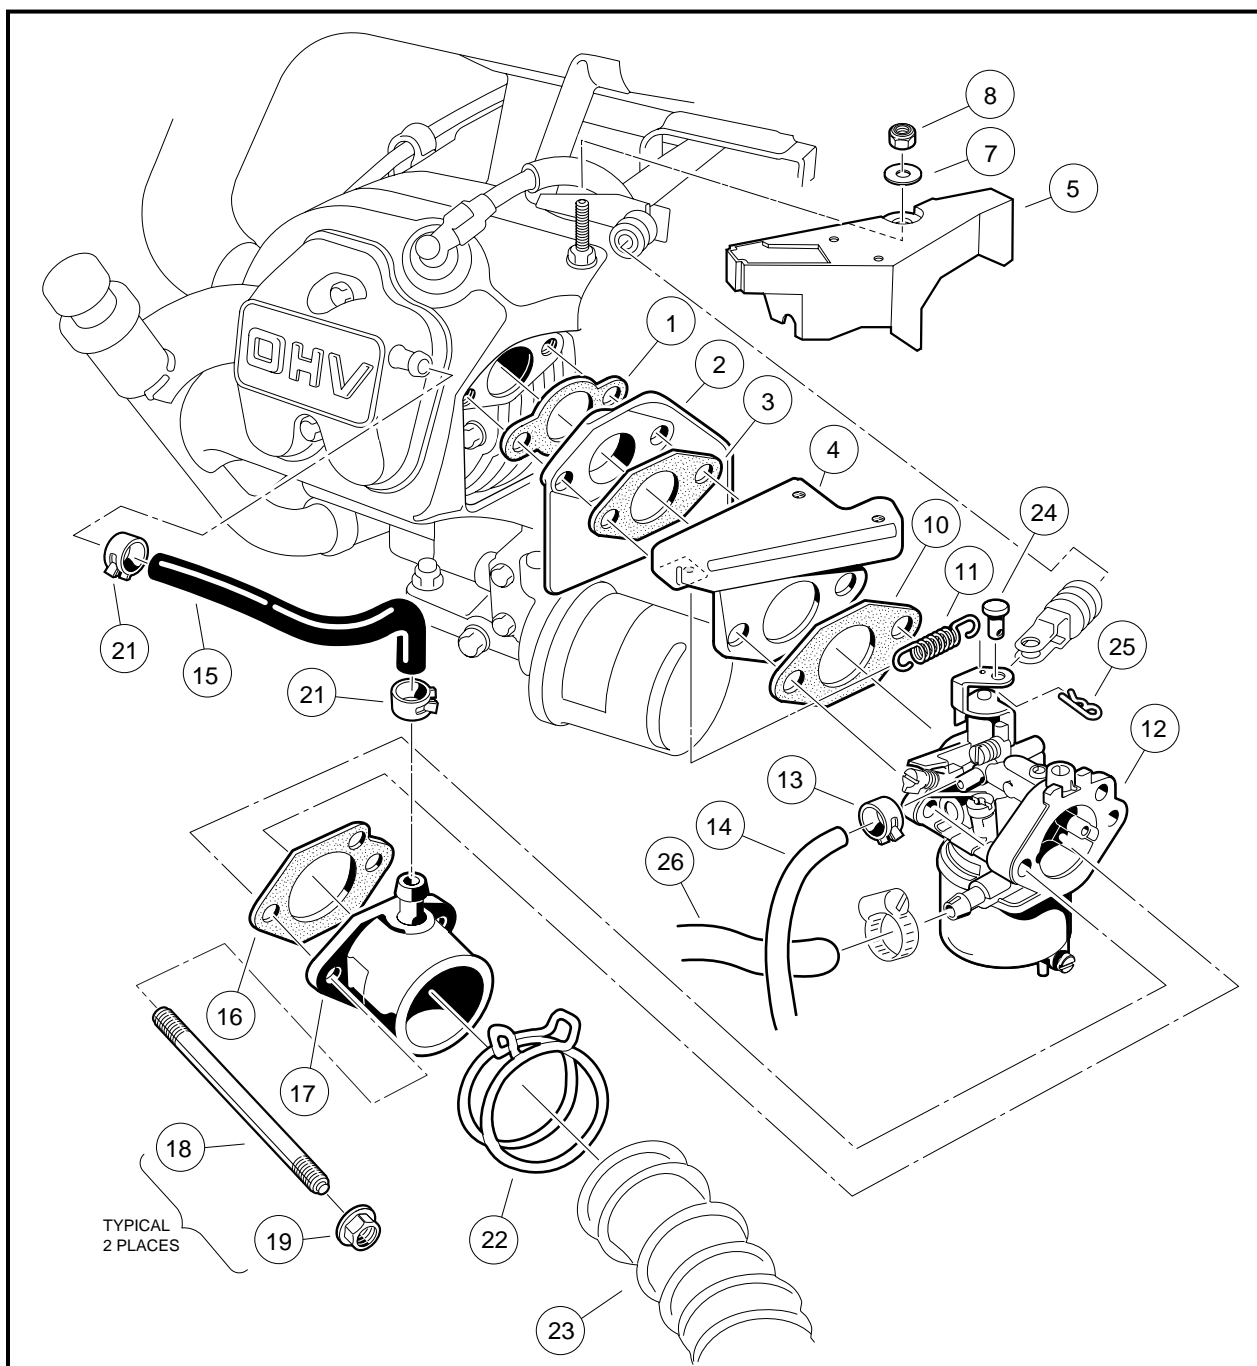
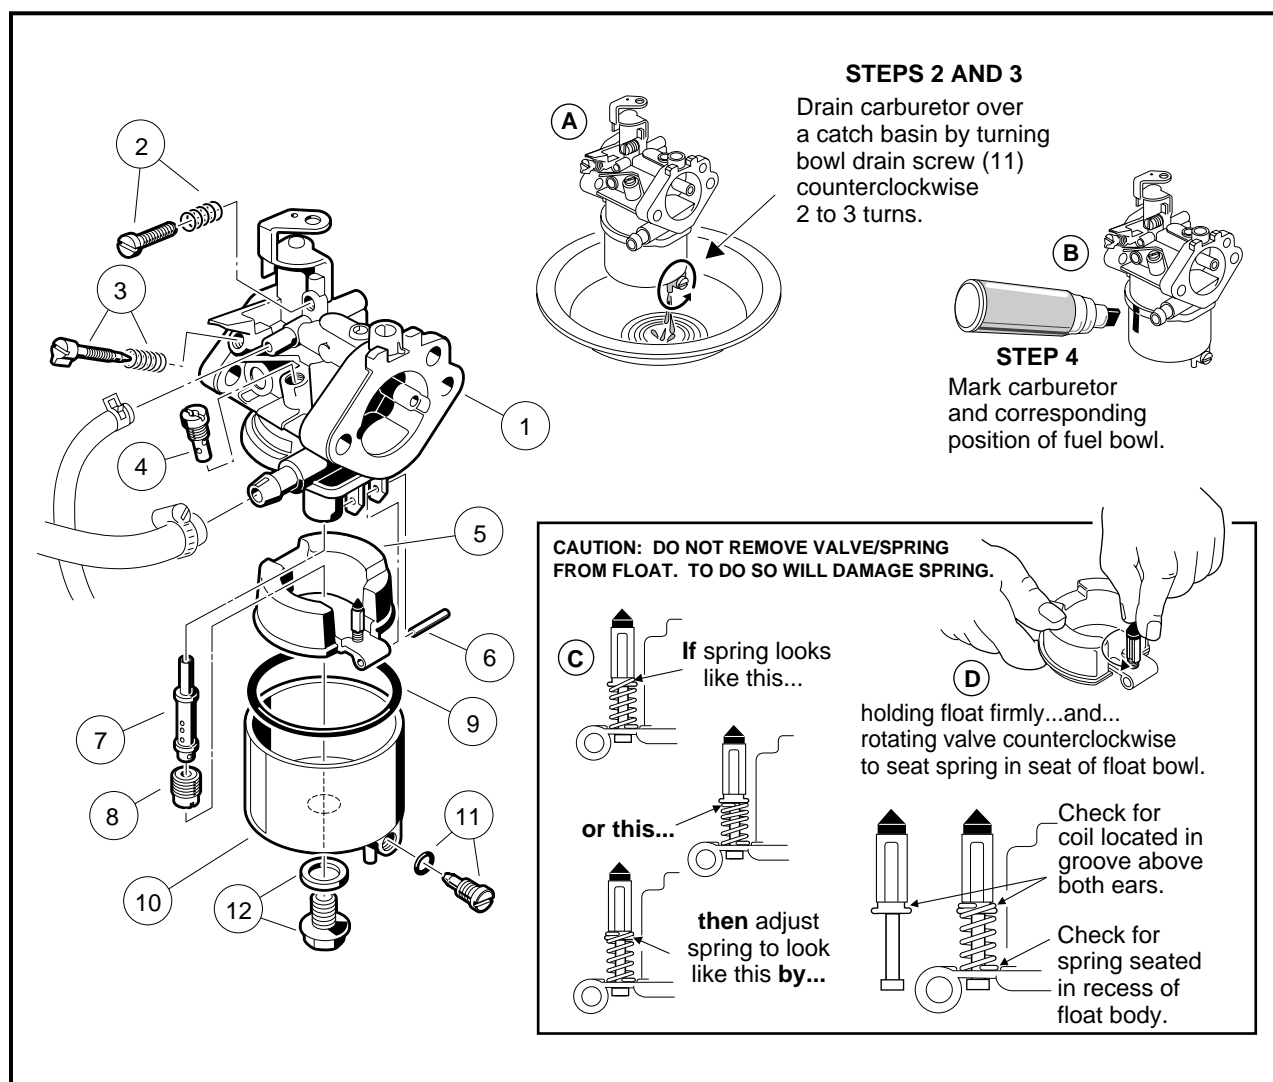

Figure 14-6 Carburetor Installation
Figure 14-7 Changing the Main Jet
- 1.3. Loosen the air intake hose clamp (22) and disconnect the air intake hose (23) at the carburetor end only (**Figure 14-6, Page 14-6**).
- NOTE THE ORIENTATION OF THE GASKET (16) BETWEEN THE CARBURETOR INTAKE (17) PIPE AND THE CARBURETOR BODY (12) SO THAT IT CAN BE REPLACED IN THE SAME ORIENTATION (**FIGURE 14-6, PAGE 14-6**).
- WHEN REMOVING THE CARBURETOR BODY, THE THROTTLE RETURN SPRING (11) MUST BE DISCONNECTED. NOTE ITS PROPER ORIENTATION SO THAT IT CAN BE REPLACED IN THE SAME ORIENTATION.
2. Position the carburetor with the drain screw (11) over a catch basin (**Figure 14-7, Page 14-7**).
3. Turn the carburetor bowl drain screw counterclockwise two or three turns and drain all the fuel from the bowl into the catch basin (**Figure 14-7, Page 14-7**). Tighten the drain screw to 10 in-lb (1.1 N·m). Return fuel to the gas tank or dispose of properly.
4. Mark the body of the carburetor and the carburetor fuel bowl with an indelible ink marker so that, after removal, the bowl can be installed again in the same position (**Figure 14-7, Page 14-7**).
5. Remove the carburetor fuel bowl retaining screw and washer (12), then remove the fuel bowl (10) and clean it with a nonflammable solvent (**Figure 14-7, Page 14-7**). **See following NOTE.**
- MAKE SURE THE FUEL BOWL GASKET (9) REMAINS PROPERLY SEATED IN THE CARBURETOR BODY WHEN THE FUEL BOWL IS REMOVED (**FIGURE 14-7, PAGE 14-7**).
- DURING NORMAL OPERATION, THE FUEL BOWL RETAINS THE FLOAT PIVOT PIN (6). MAKE SURE THAT THE FLOAT PIVOT PIN DOES NOT FALL OUT OF THE CARBURETOR BODY AFTER THE FUEL BOWL IS REMOVED.
6. Remove the main jet (8) from the carburetor body and discard it (**Figure 14-7, Page 14-7**).
- MAKE SURE THE FUEL NOZZLE (7) DOES NOT FALL OUT OF THE CARBURETOR BODY AFTER REMOVAL OF THE MAIN JET. THIS IS BEST ACCOMPLISHED BY POSITIONING THE CARBURETOR UPSIDE DOWN DURING MAIN JET REMOVAL (**FIGURE 14-7, PAGE 14-7**).
- INSPECT THE MAIN JET NOZZLE (7), AND PILOT JET (4) TO ENSURE THEY ARE FREE FROM CONTAMINATION. REPLACE ANY PART THAT IS CLOGGED WITH CONTAMINATION. REPLACE THE FLOAT IF IT IS DAMAGED, OR IF THE FLOAT VALVE IS DAMAGED OR WORN. EXAMINE THE FLOAT VALVE/SPRING ASSEMBLY TO MAKE SURE THE SPRING IS INSTALLED CORRECTLY (**FIGURE 14-7, PAGE 14-7**).
12. Install the carburetor on the engine (**Figure 14-6, Page 14-6**).
- 12.3. Install the carburetor retaining nuts (19) and tighten them to 50 in-lb (5.7 N·m).
13. Connect fuel supply line (26) and tighten screw clamp to 9 in-lb (1.0 N·m) (if equipped) (**Figure 14-6, Page 14-6**).
14. Install carburetor vent line (14) and clamp (13).
15. Install the governor cable clevis pin (24) and cotter pin (25).
16. Install the governor guard (5), flat washer and nylon locknut. Tighten to 30 in-lb (3.4 N·m).
17. Install the intake hose (23) and secure with a hose clamp.
2. Remove the governor guard (5) **(Figure 14-6, Page 14-6)**.
3. Remove the cotter pin (25) and clevis pin (24) at the carburetor throttle bracket **(Figure 14-6, Page 14-6)**.